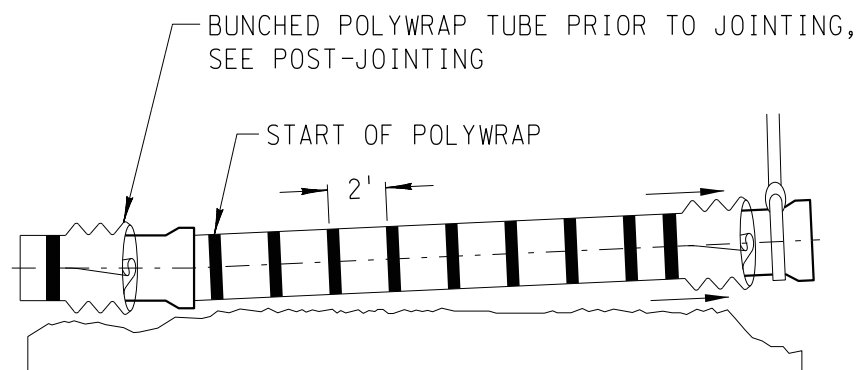

FIGURE 2 - POLYWRAP INSTALLATION PROCEDURE
3. PRIOR TO LAYING PIPE IN TRENCH FOR JOINTING, BUNCH THE 12 INCH OVERLAP TUBE ACCORDION FASHION LENGTHWISE UNTIL IT CLEARS THE PIPE END. SEE FIGURE 2.